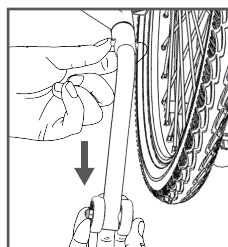

Figure 10
- Installation and removal of anti-roll wheel: hold the marble on the anti-roll wheel with your fingers while installing and insert it into the frame hole until the marble fastens into the marble hole of the wheelchair. While removing, hold the marble with one hand and pull the anti-roll wheel off backwards with the other hand, see Figure 10 (Note: the anti-roll wheel is about 4 cm from the ground).